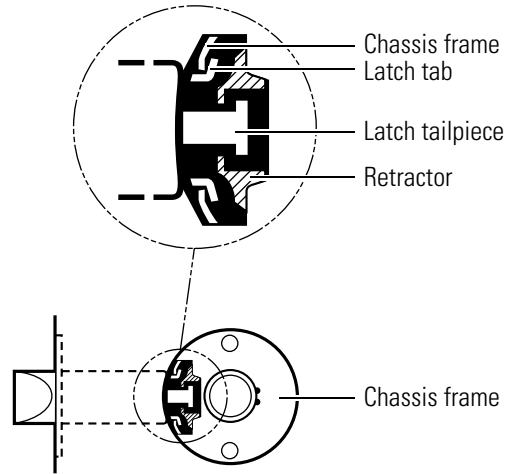

Figure 3.8 Engaging the retractor in the latch
- From the outside of the door, install the chassis assembly. The outside rose and liner assembly should be flush with the door. Make sure the latch tabs engage the chassis frame and the latch tailpiece engages the retractor. See Figure 3.8.